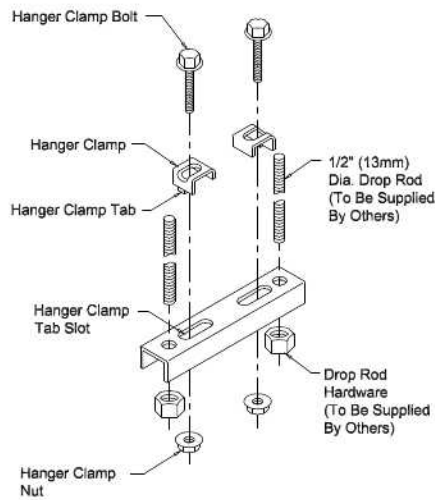
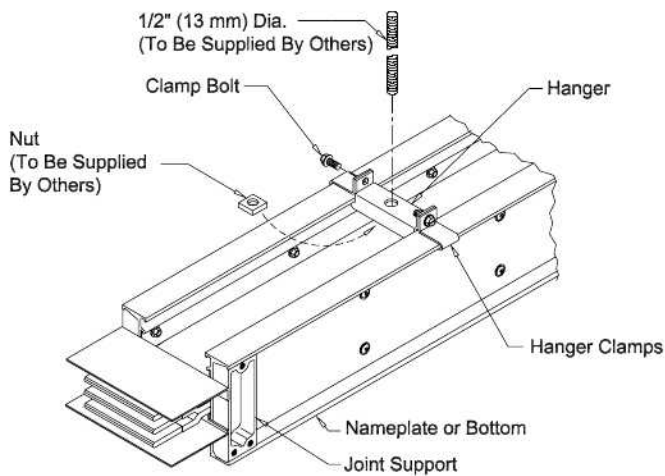

Figure 3. Trapeze Hanger
Figure 8. Single Drop Rod Hanger
Trapeze hangers (Figures 3 and 4) and single drop rod hangers (Figure 8) are used to support horizontal busway runs on maximum 10' (3.05m) centers. 1/2 inch (13 mm) steel drop rods and hardware are to be furnished by installer. See Hanger Installation Instructions Document #31-9931-01 for complete procedures.
7.1.2 Install a hanger clamp on each side of the busway with the hardware provided. Ensure that the hanger clamp tabs are positioned in the hanger clamp tab slots (Figures 3 and 4).
WARNING: Busway must be oriented as shown in Figure 8 for single drop rod hanger installation.